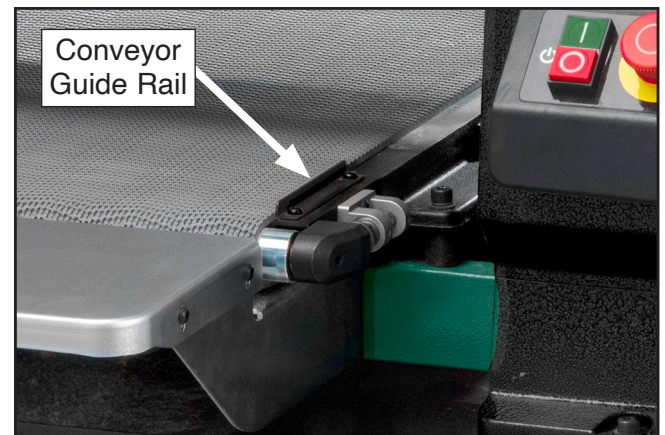

Figure 53. Location of conveyor guide rail.
- If belt slips on rollers, rotate both roller adjustment bolts (see **Figure 53**) evenly counterclockwise to increase tension.
- If belt tracks toward right, rotate right roller adjustment bolt (see **Figure 53**) counterclockwise to move belt left.
- If belt tracks toward left, rotate left roller adjustment bolt (see **Figure 53**) counterclockwise to move belt right.
Note: Edge of conveyor belt should line up with conveyor guide rail (see **Figure 53**).